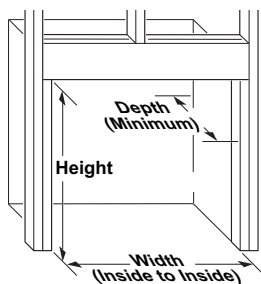

Figure 13 - Rough Opening for Installing in Wall
- Frame in rough opening. Use dimensions shown in Figure 13 for the rough opening. If installing in a corner, use dimensions shown in Figure 14, page 12, Figure 13, for the rough opening.